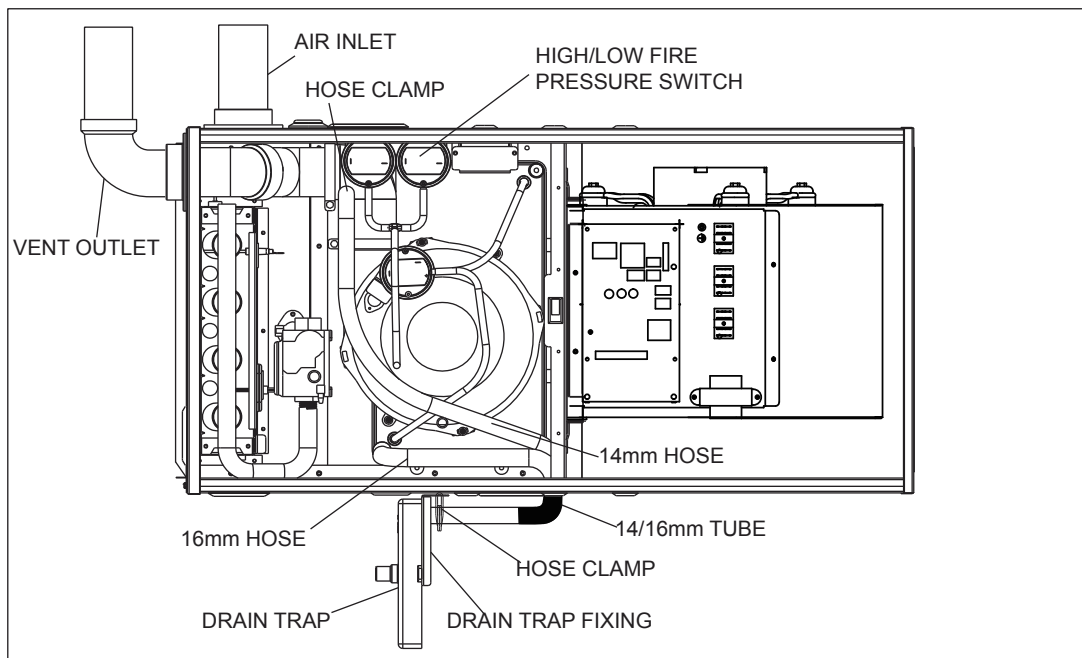
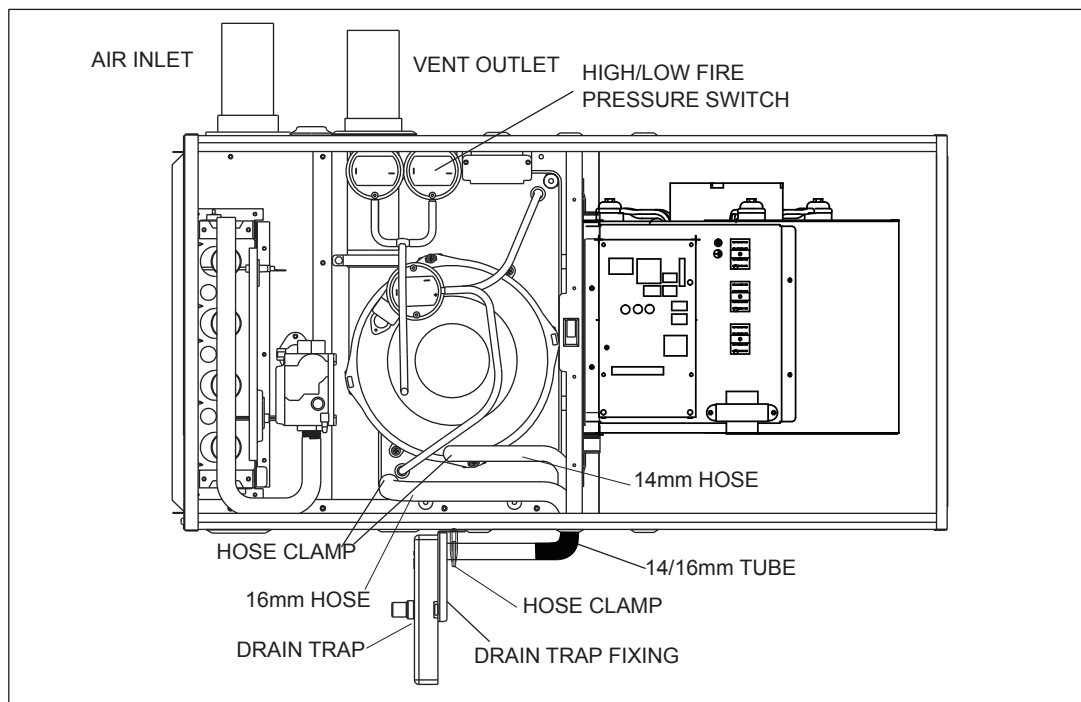
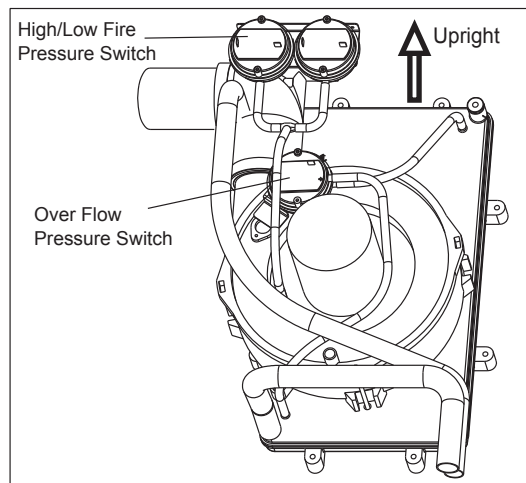

Fig. 14 - Horizontal Left Side Installation, Vent Through Top Panel
Fig. 15 - Horizontal Left Side Installation, Vent Through Side Panel
Fig. 16 - Pressure Switch Position
**CAUTION: FOR HORIZONTAL LEFT INSTALLATION (AIR DISCHARGE TO THE LEFT), HOSES OF CONDENSATE OVERFLOW PRESSURE SWITCH NEED TO BE REROUTE. (SEE FIGURE 14&15)**
#### 2. Air discharge to the left and vent through furnace top panel (see Fig.14 and Fig. 16)
#### 3. Air discharge to the left and vent through furnace side panel (see Fig. 15 and Fig. 16)
In this installation, hoses connecting between ports of overflow protection pressure switch (overflow switch) and pressure tabs on the collector box **MUST be switched**. The overflow switch has two ports, which is different from two other regular pressure switches that have only one port. Make sure that black port (positive) is connected to the lower position tap on condensate collector box and gray port (negative) to higher tap of condensate box. Connecting incorrectly will result in failure to protect condensate overflow. (See Fig. 16)